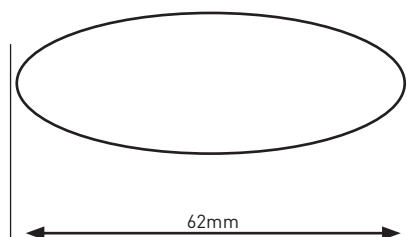

Fig 1
- Cut a suitable hole in the ceiling as per the cut-out detail (See Fig 1) ensuring that it does not infringe with electrical cables, water/gas pipes or ceiling joists